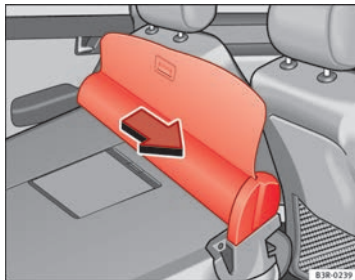

Fig. 120 Removing luggage compartment cover / net partition
- Pull the net partition in the direction indicated ⇒ Fig. 120 and lift it out of the retaining rails.